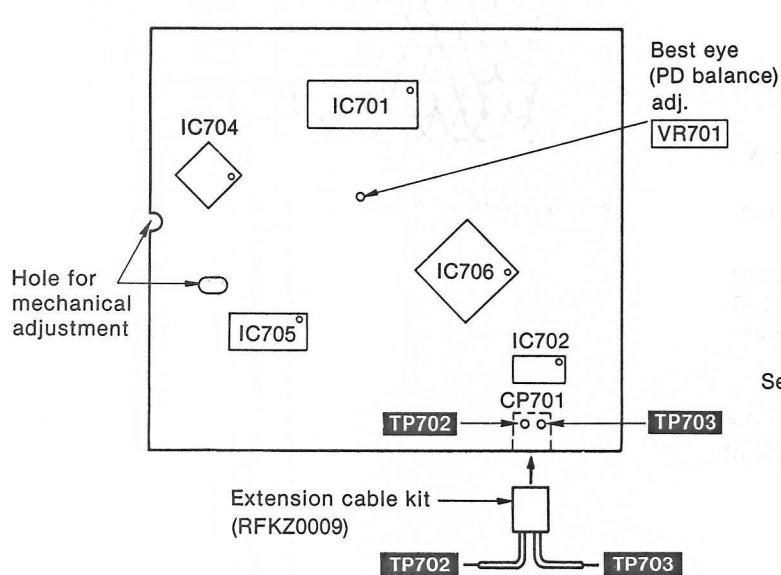

Fig. 1
3. Adjust **VR701** until the vertical fluctuation of RF signal is minimized and the eye pattern is most stretched. (Refer to Fig. 1 on page 12)